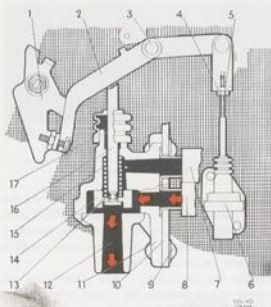

Fig. 2-101. Hot start valve, function, idling (Zenith-Stromberg carburetor)
When the throttle is at idling position, the lever (1, Fig. 2-101) presses against the valve control (2). The piston (14) is thereby lifted to its upper position.
When the accelerator pedal is depressed (see Fig. 2-101), the lever (1) releases the valve control (2) and the piston (14) is pressed by the spring (15) against its lower position. The outlet (12) is shut off, the fuel fumes are led into the air cleaner and, when the engine starts running, then through the carburetor and into the engine combustion chambers.